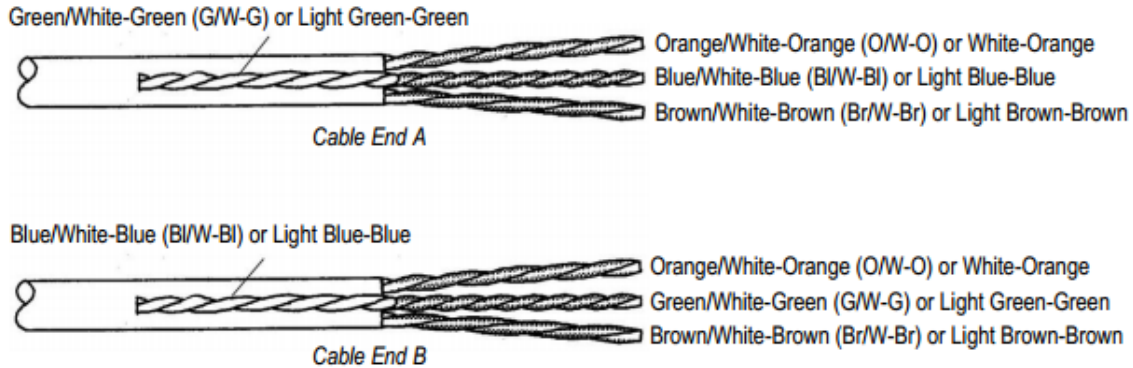

Figure 4. Position Cable Pairs
1. While firmly holding the cable jacket next to the stripped end, position the pairs as shown in Figure 4.